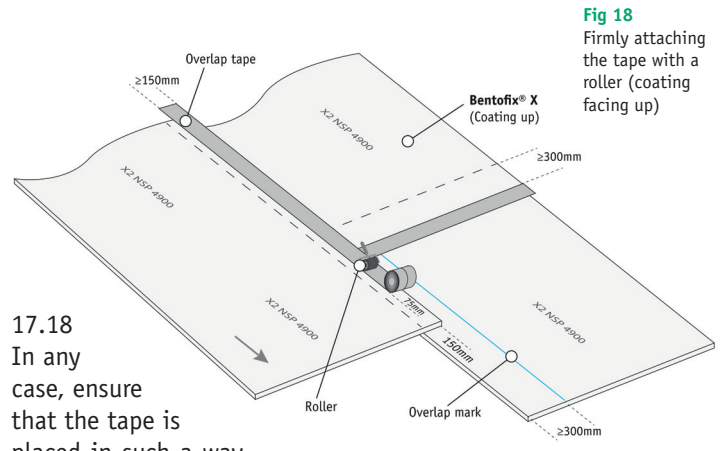

Fig. 18
17.18 In any case, ensure that the tape is placed in such a way that the edge overlap is covered with 75mm on both sides (fig. 18).
17.19 Use a roller to then place the tape firmly to the coated GCL (fig. 18).